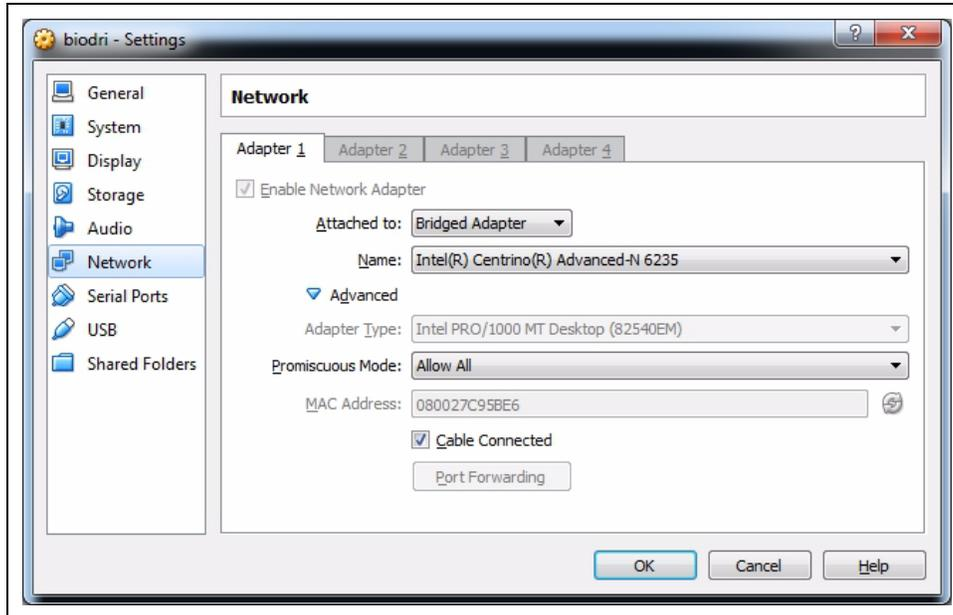

Figure 11D Wireless Connection
4. From the Adapter 1 Tab, select the network connection from the “Name” drop down list. **NOTE:** *The network name will be different for each computer. In most cases, you want to choose the wired connection. To help identify the wired connection, look for “Ethernet” in the name. To identify a wireless connection, you can look for the adapter with the “-N” in the name that identifies a wireless protocol. (See Figures 11D and 11E.)*